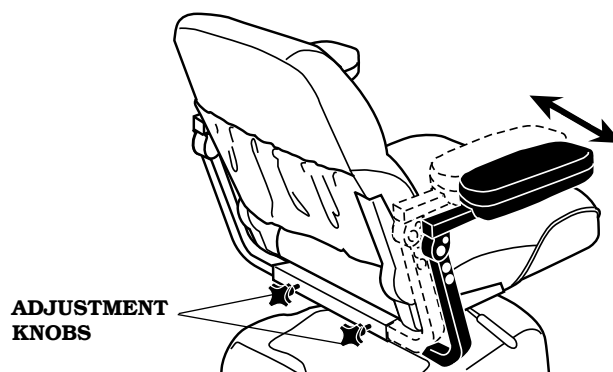

FIGURE 6. ARMREST WIDTH
1. Loosen the adjustment knobs at the rear of the seat. See figure 6.